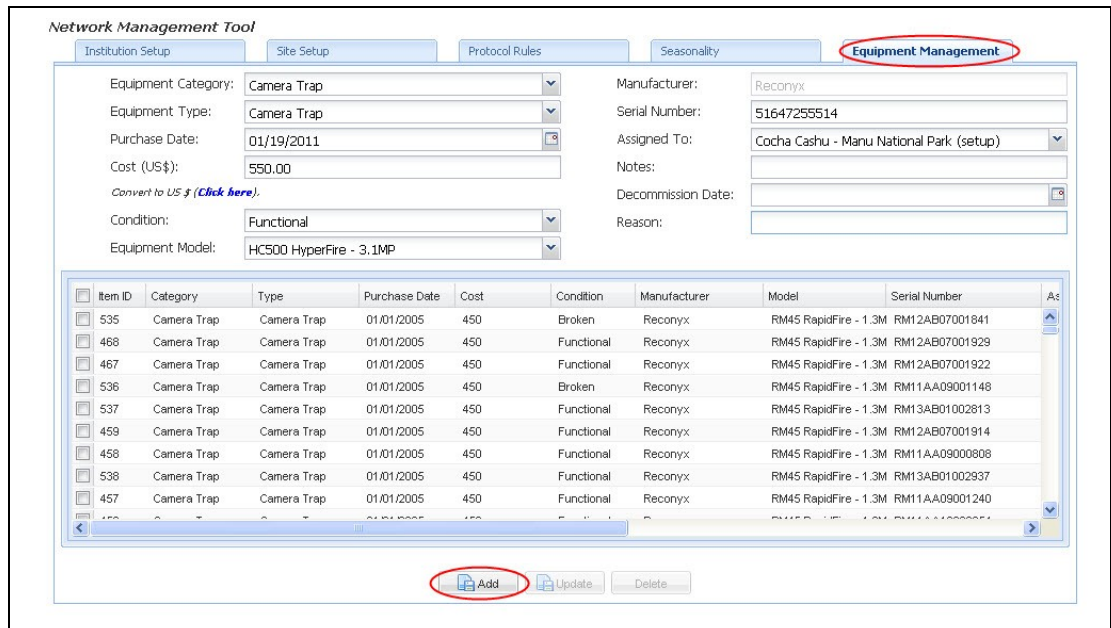

Figure 4. This image shows the Equipment Management tab in the Network Management Tool where new camera traps should be registered.
4. **Register camera traps and serial numbers.** On the Network Management Tool page, select the Equipment Management tab and enter the required information in the text boxes at the top (equipment category/type, purchase date, cost, condition, etc.). Enter the serial number for each camera trap in the Equipment Management tab in the TEAM portal and click the “Add” button. See Figure 4 below for a visual reference.